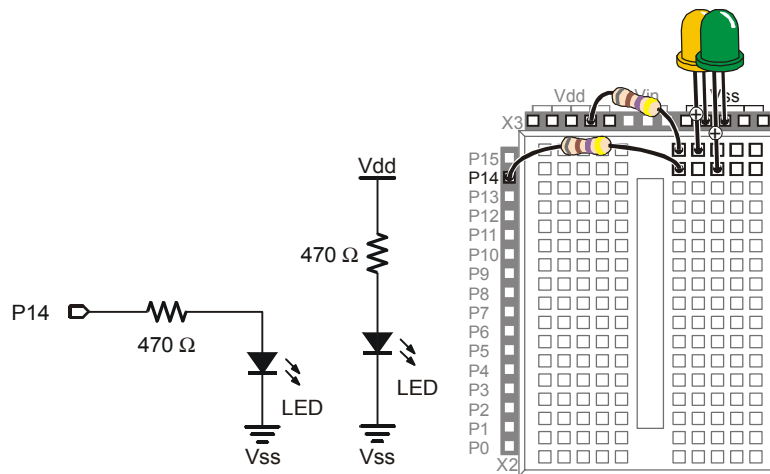

Figure 2-13
- √ Construct the second LED circuit as shown in Figure 2-13.